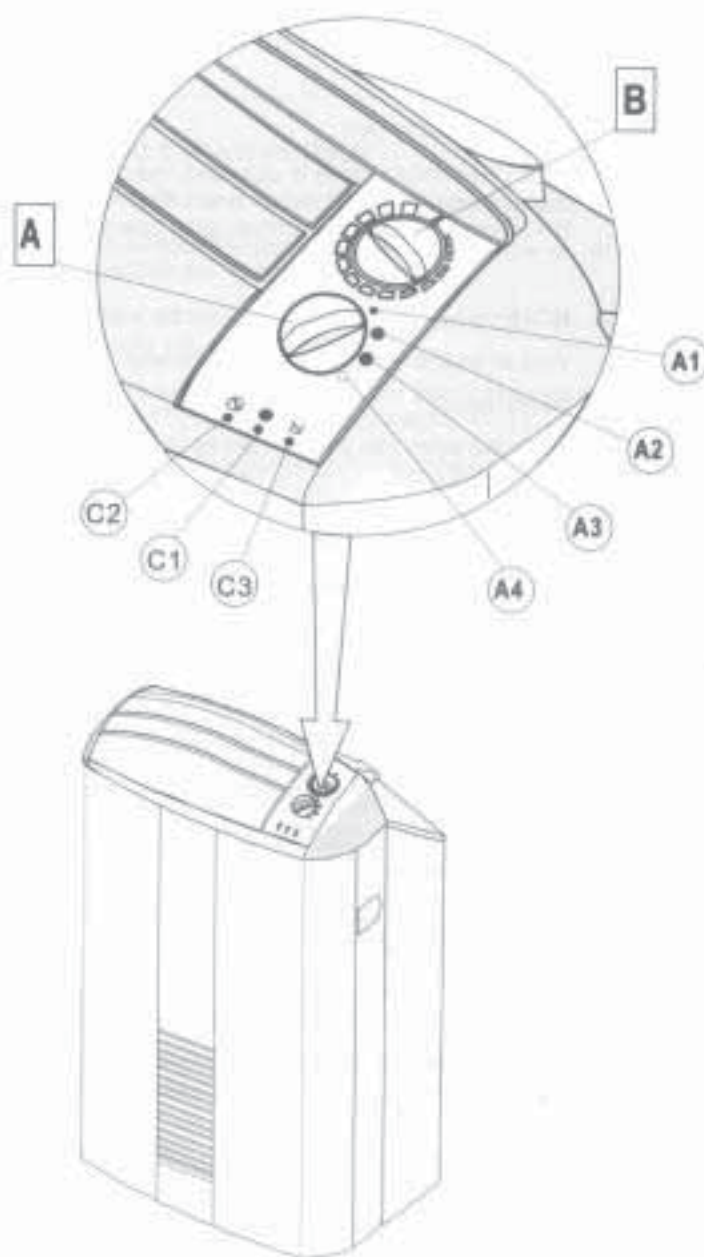

Figure 13
ON UNIT CONTROL AND DISPLAY PANEL (see figure 13)
- The air conditioner must be connected to a permanent drain (See fig. 13). Turn selector-switch (A) to the (A4) low cooling mode. Indicator (C1) will light up.